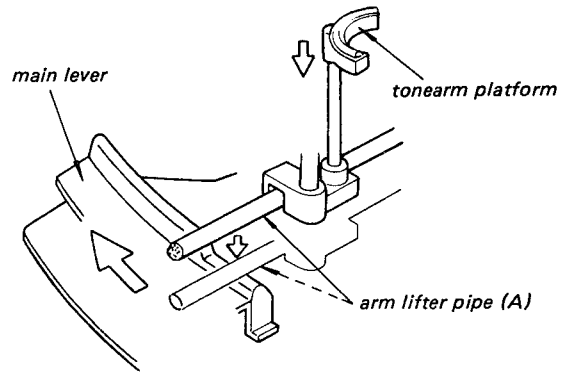

Fig. 1-10
- 12) The tonearm lowers on the record and the record begins to play, because the lifter plate attached to the main lever stops pushing the arm lifter pipe (A) as shown in Fig. 1-10.